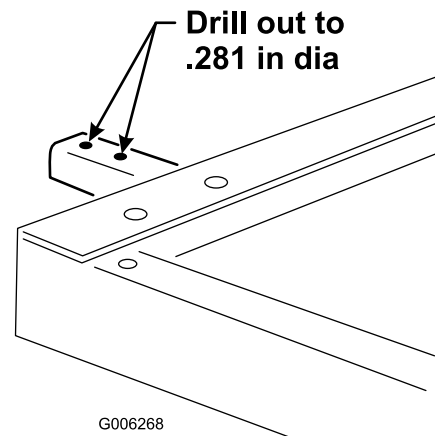

Figure 9
6. On the frame mounting bracket, enlarge the switch mounting holes to .281 inch diameter (Figure 9).